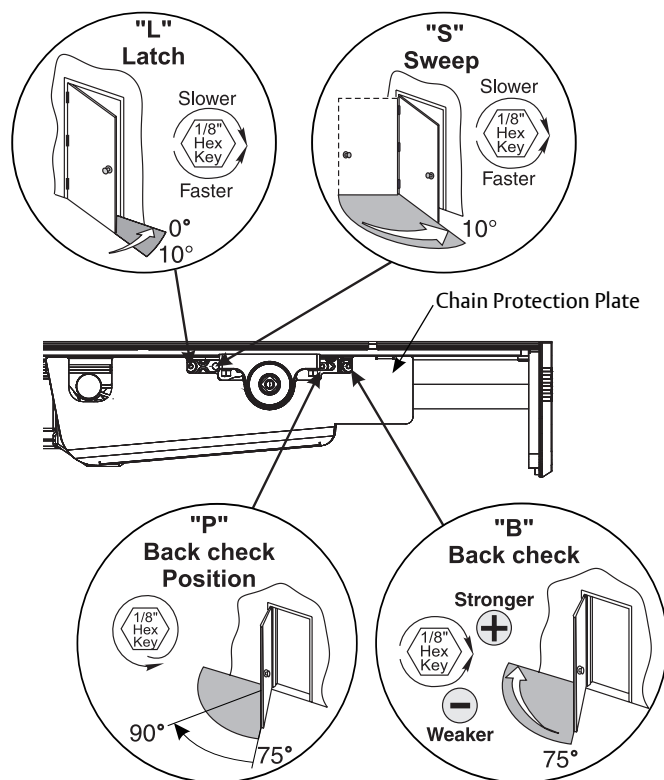

Figure 20 View from ceiling looking down
- Chain protection plate cutouts allow access to valves. Use hex wrench to make adjustments (Figure 20)
1. Closing Speed Controls (Figure 20)
2. Opening Cycle (Figure 20)